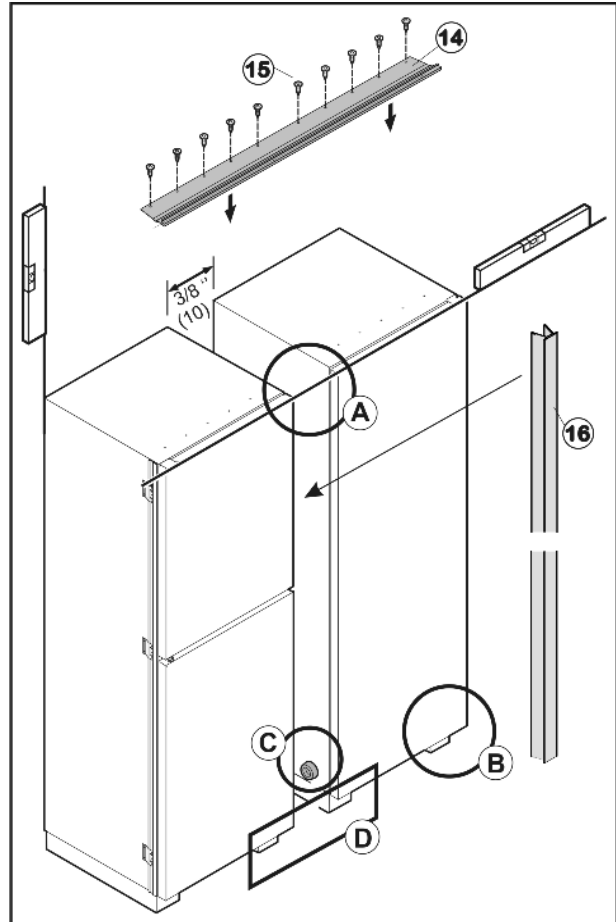
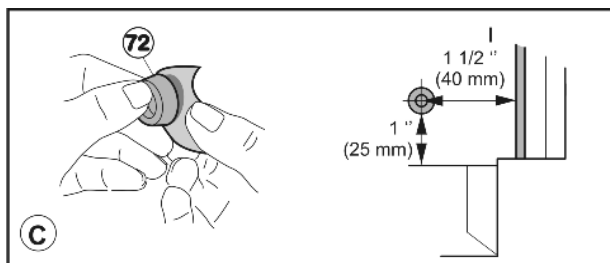
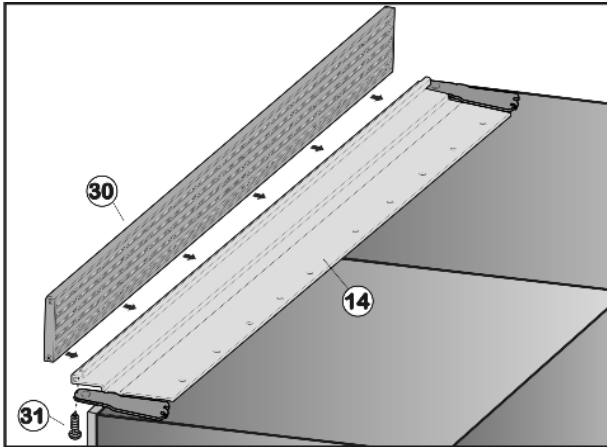
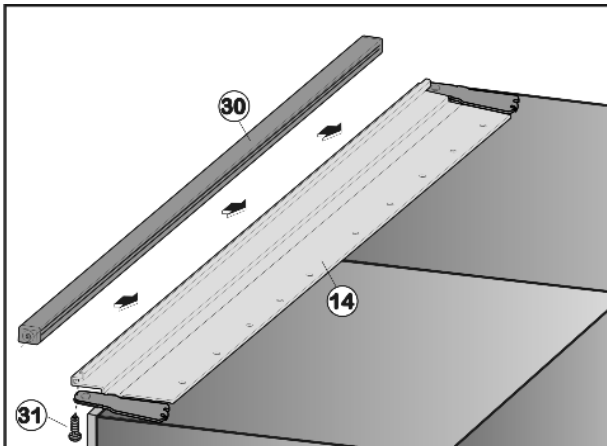

Fig. 58
Fig. 60
Fig. 65
Fig. 66
- Glue spacer Fig. 60 (72) onto the lower part of the side wall on the handle side, approximately 1.5 in. (40 mm) as measured inwards from the front edge of the appliance.
- Position end strip Fig. 58 (14) over the installation contour and align it such that the holes in ventilation grille and installation contour are above each other.
- Screw on upper installation contour Fig. 58 (14) through the pre-cut holes using screws Fig. 60 (15).
- Position ventilation grille Fig. 65 (30) over the installation contour Fig. 58 (14) and align it such that the holes in ventilation grille and installation contour are above each other.
- Screw ventilation grille Fig. 65 (30) to installation contour from below using four screws Fig. 65 (31).
- Position end strip Fig. 66 (30) over the installation contour Fig. 58 (14) and align it such that the holes in ventilation grille and installation contour are above each other.
- Screw end strip Fig. 66 (30) to installation contour from below using four screws Fig. 66 (31).